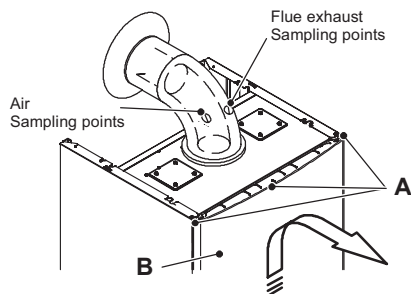

Fig. 9.1
- Loosen the three screws A (Fig. 9.1).
It is recommended that a combustion analysis check is made. Remove the plug as indicated in Fig. 9.1 and carry out combustion analysis check and adjustment if necessary as described in the section Gas valve - Adjustment of the Service manual.